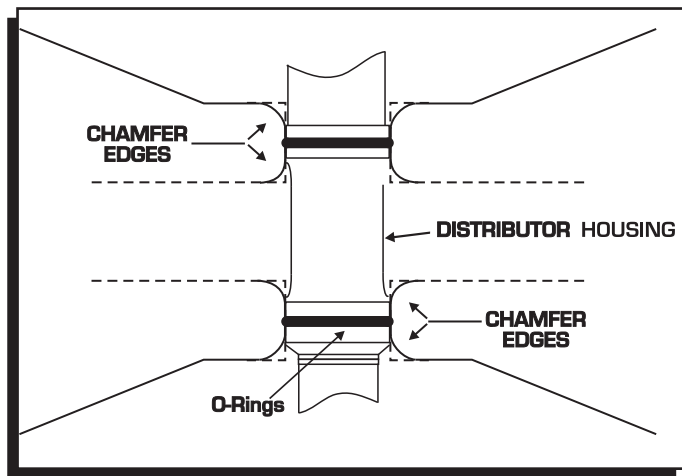

Figure 3 Modified Block for use with O-Rings.
2. Install the gasket and apply a liberal amount of the supplied lubricant to the distributor gear. (The supplied O-rings can **only** be used if the block has been modified as shown in Figure 3.)